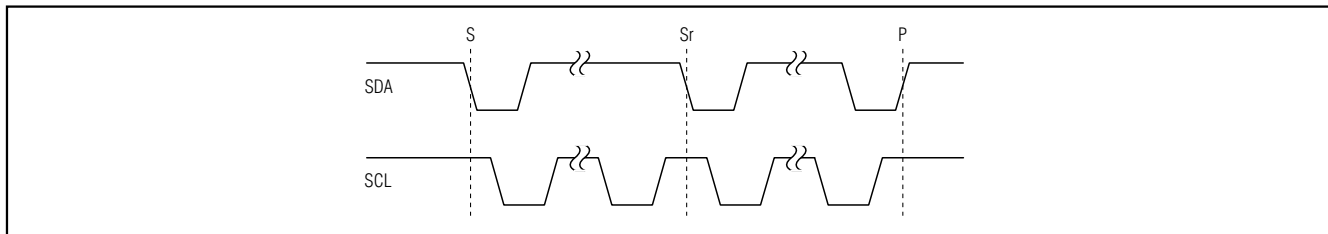

Figure 7. START and STOP Conditions
The master initiates a transmission with a START condition (S), a high-to-low transition on SDA with SCL high. The master terminates a transmission with a STOP condition (P), a low-to-high transition on SDA while SCL is high (Figure 7). The STOP condition frees the bus and places all devices in F/S mode (see the *Bus Timing* section). Use a repeated START condition (Sr) in place